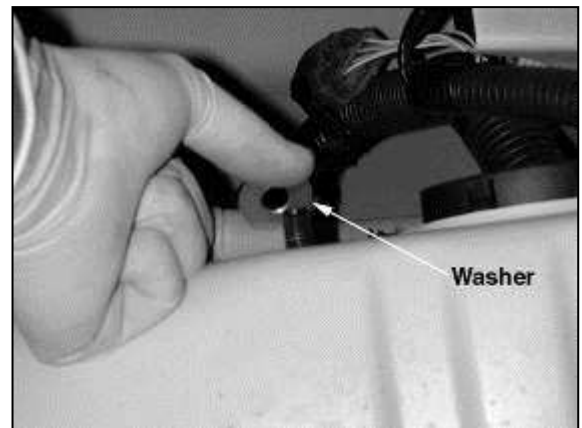

Fig. 10
- g. Place the supplied washer onto the stud coming through the fender well. **(Fig. 10)**